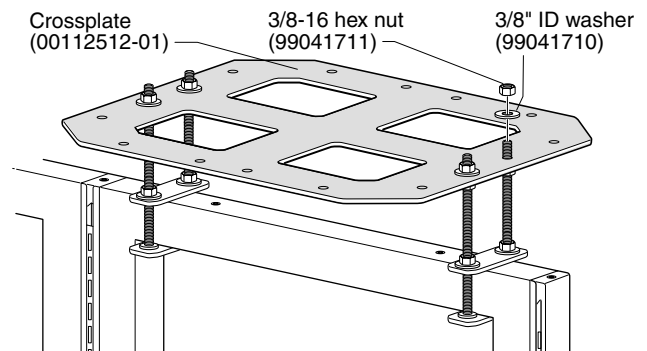

Figure 3
2. Align the round holes in the Crossplate or In-line Plate with the carriage bolts and set the plate on the washers of the U-assembly Kit. (Figure 3 or 4)
3. Assemble a 3/8" ID washer and then a 3/8-16 hex nut onto the end of each carriage bolt. (Figure 3 or 4)